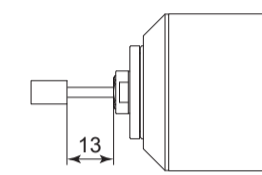

Fig. 13
- ① The proper surface speed for general grindstones is 10-30m/s.
- ② Do not exceed 13mm of overhang for mounted grindstones as shown in Fig. 13. If the overhang must exceed 13mm, reduce the motor speed in accordance with Table. 3.
- ③ Dress the grindstone prior to use.
- ④ Do not use cutting tools with bent or broken shanks, cracks or excessive run-out.
- ⑤ For grinding, the maximum depth of cut should not exceed 0.01mm radially or axially. Reciprocate the tool several times after each pass to eliminate tool pressure.
- ⑥ Always operate cutting tools within the allowable recommended speed of the cutting tools. Use of a cutting tool outside of the allowable speed of the cutting tools could cause damage to the Spindle and injury to the operator.
- ⑦ Keep the cutting tool shank and collet chuck clean. If contaminants are left in the collet chuck or chuck nut, excessive run-out will cause damage to the cutting tool and or Spindle.
- ⑧ Do not strike or disassemble the Spindle.
- ⑨ Please set the cutting tools to minimize the overhang amount. 13mm is the maximum amount of overhang to maintain high accuracy and safety.